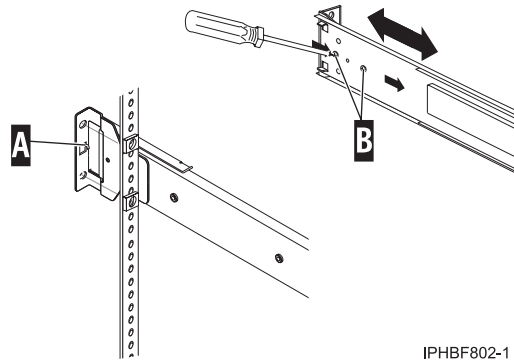

Figure 140. Aligning and adjusting the length of the rails.
8. Tighten the screws that you used to adjust the length of the rail in Figure 140